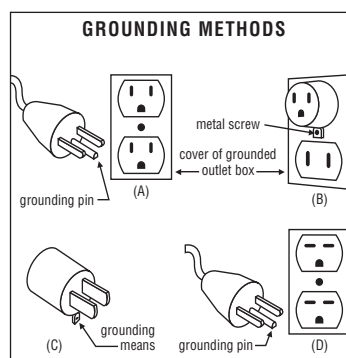

Figure 1
This tool should be grounded while in use to help protect the operator from electric shock. The tool is equipped with a 3-conductor cord and 3-prong grounding type plug to fit the proper grounding type receptacle. The green (or green and yellow) conductor in the cord is the grounding wire. Never connect the green (or green and yellow) wire to a live terminal. If your unit is for use on less than 150 V, it has a plug that looks like that shown in sketch (A) in Figure 1. If it is for use on 150 to 250 V, it has a plug that looks like that shown in sketch (D). An adapter, see sketches (B) and (C), is available for connecting sketch (A) type plugs to 2-prong receptacles.